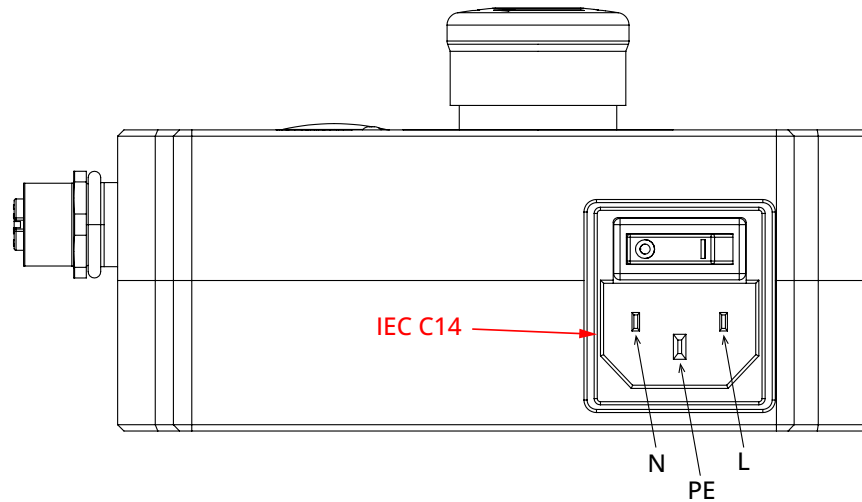

Figure 5: Power supply AC power connector and main switch
- D: 24 V (DC) power and communications cable port (for connecting to robot);
Figure 5 shows the AC power connector, of type IEC C14, and indicates the Neutral (N), Protective Earth (PE) and Live (L) pins. It also illustrates the main switch ("I" stands for ON, "O" stands for OFF).